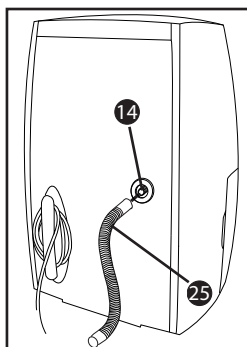

Fig. 3
- ◆ Either connect the supplied hose 25 to the outlet 14 or screw the EU garden hose adapter 26 to the outlet 14 (see figs. 3 + 4).